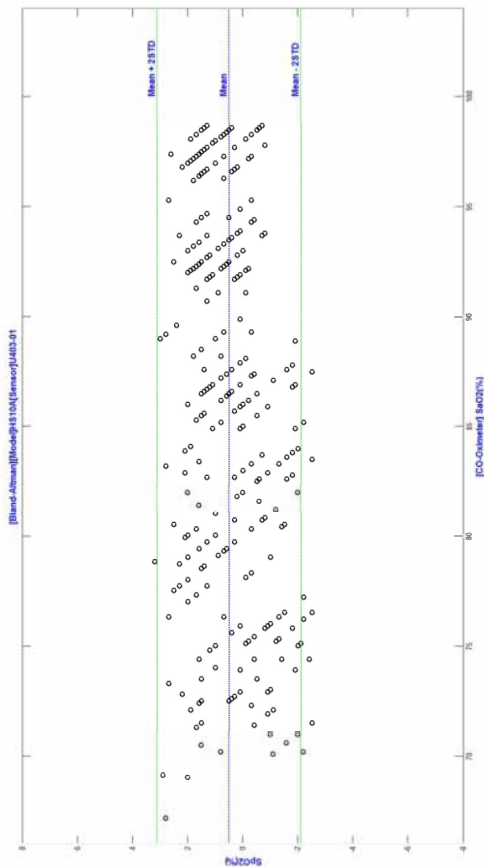

Figure 1 Bland-Altman
- 2) The data from the hypoxia breathe-down trials for each of the 12 volunteers is summarized in Figures 1&2: